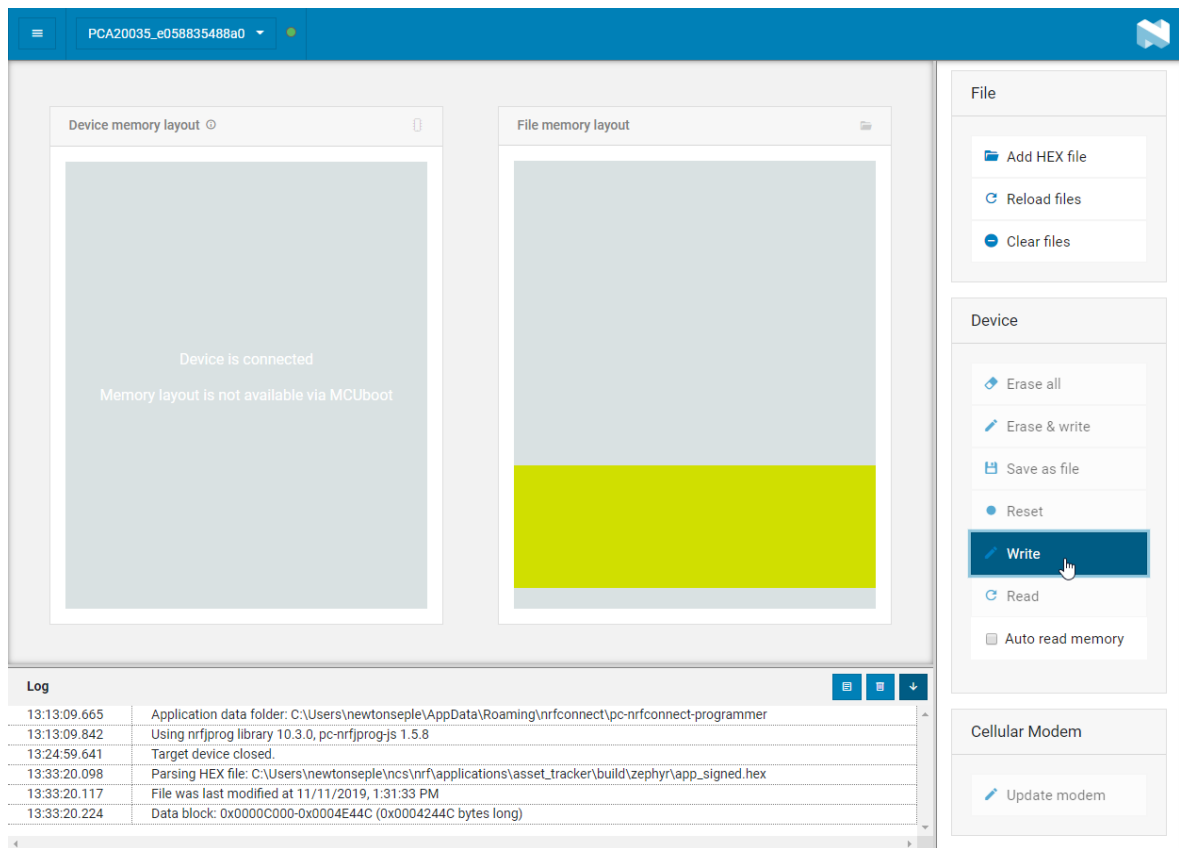

Figure 11: Updating the application firmware using Write option in nRF Connect Programmer
8. Click **Write** on the **Device** pane in the right as shown in Figure 11: Updating the application firmware using Write option in nRF Connect Programmer on page 19.